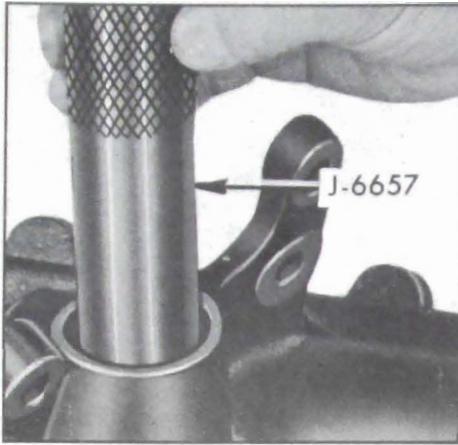

Figure 8-57—Removing Pitman Shaft Needle Bearing
2. Check the pitman shaft needle bearing for being worn, pitted or scored. If damaged, remove needle bearing from gear housing bore by driving from the seal bore side of housing using Tool J-6657. See Figure 8-57. Discard bearing.